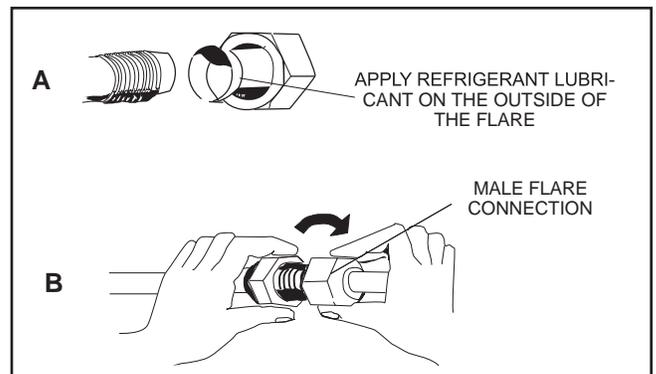
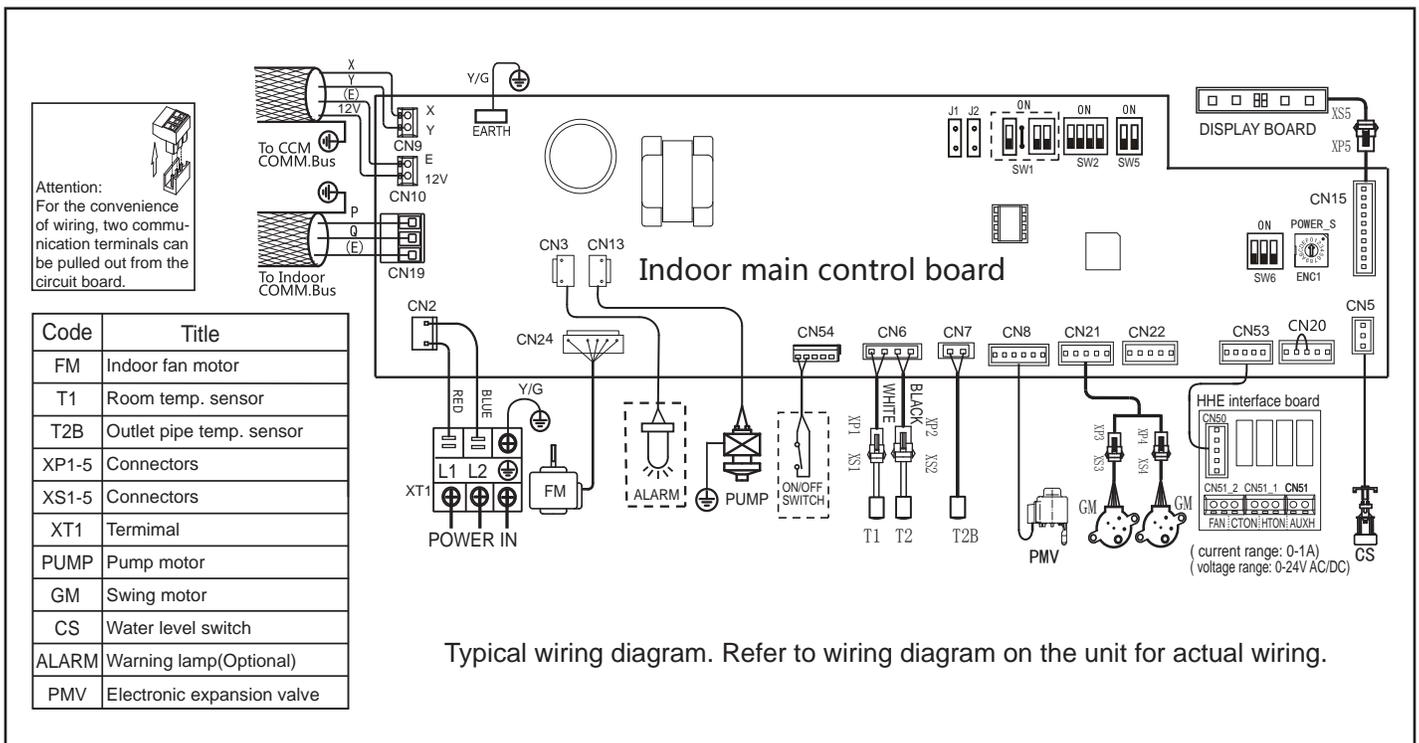

Figure 3. Making Connections (Male to Female Connection)
Figure 9. Typical Wiring Diagram V33B Wiring Diagram
6. If the unit is being installed in an application that includes a sheet rock (plasterboard) ceiling, it is required that an access panel be installed in a suitable location. This will also allow access for future maintenance (requirement of Lennox warranty program). Access is required during the commissioning process to test the condensate disposal system (See Figure 9), to check the electronic expansion valve and associated flare nuts (See Figure 3), and to check the local disconnect.
5. Apply recommended HFC-410A refrigerant lubricant to the outside of the flared refrigerant lines (Figure 3-A).
6. Align the threaded connections with the flared refrigerant lines. Tighten the flare nuts lightly at first to obtain a smooth match (Figure 3-B).